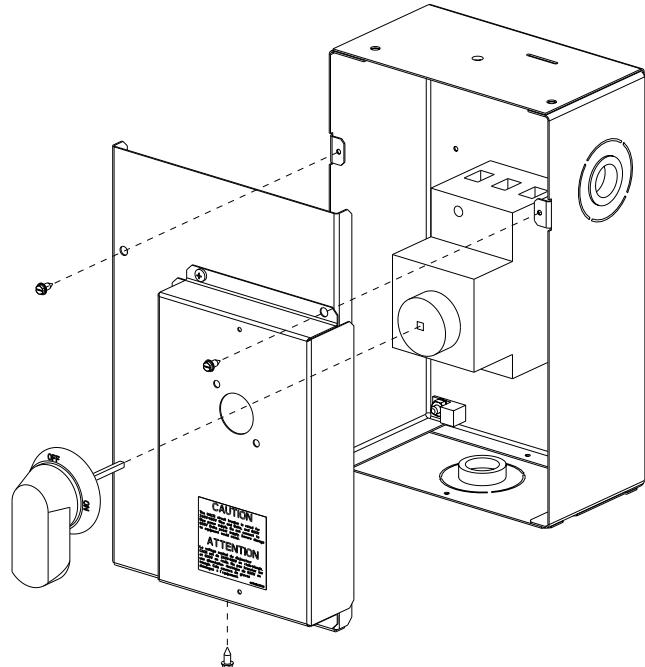

Fig. 26 — Handle and Shaft Assembly for HACR Circuit Breaker
2. Remove (3) hex screws on the HACR circuit breaker enclosure - (2) on the face of the cover and (1) on bottom (see Fig. 26).
9. Secure the handle to the painted cover with (2) screws and lock washers supplied.
10. Engaging the shaft into the handle socket, reinstall (3) hex screws on the HACR circuit breaker enclosure.